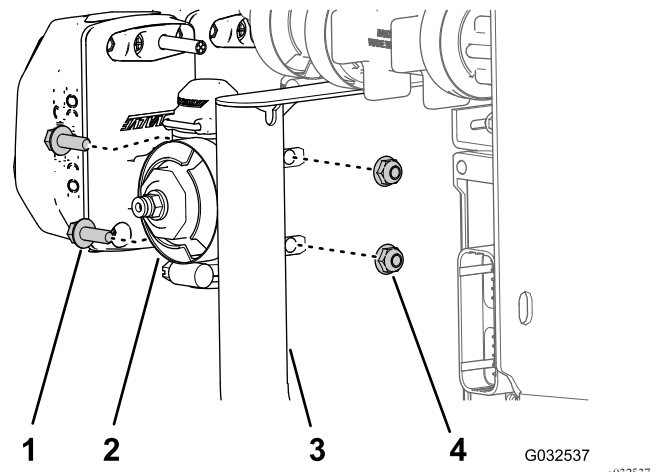

Figure 92
3. Assemble nozzle-valve 10 to the valve mount (Figure 92) with the 2 flange-head bolts (1/4 x 3/4 inch) and 2 flange locknuts (1/4 inch) that you removed in step 2 of Disassembling the Boom-Section Valves from the Manifold Mount (page 27).